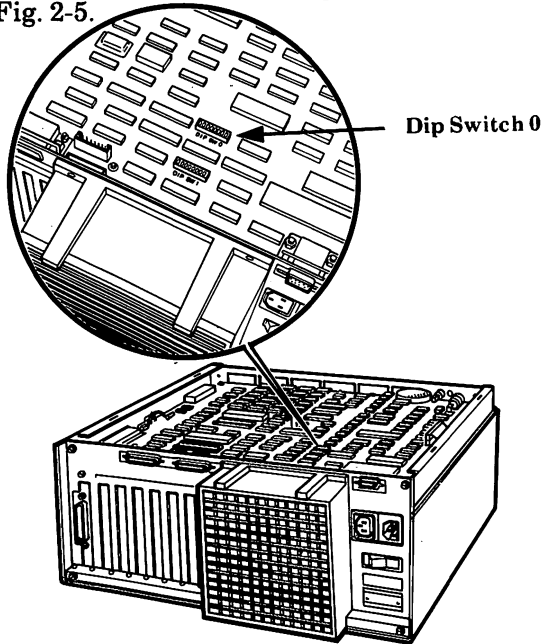

Figure 2-5. Location of DIP Switch 0.
6. Locate DIP Switch 0 on the processor board. See Fig. 2-5.